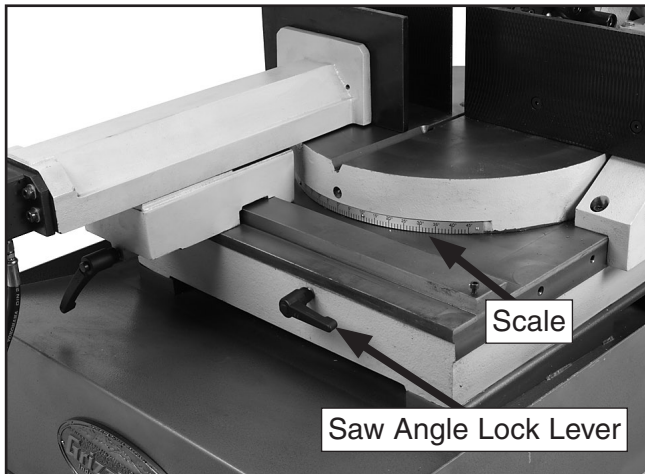

Figure 24. Saw angle lock lever.
2. Loosen the saw angle lock lever, rotate the saw bow to the desired angle, as indicated by the scale, then re-tighten the swivel lock lever (Figure 24).